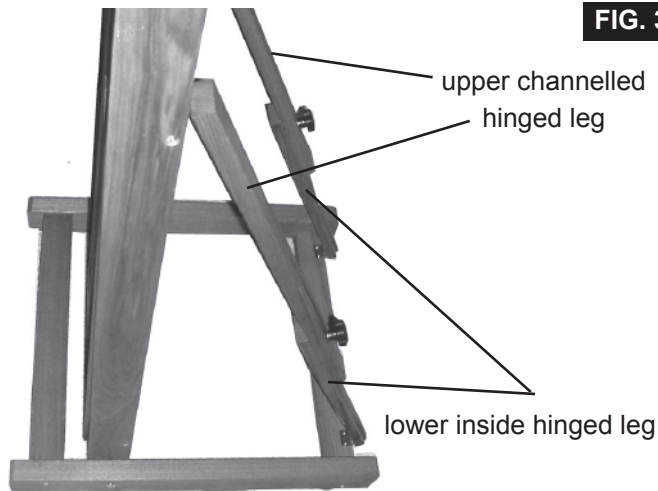

FIG. 3
STEP 3. Lower portion of easel assembly should now look like FIG 3. for proper assembly of upper/lower legs.